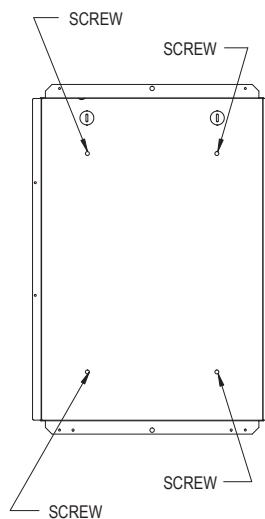

Figure 6
5. Place the frame against the wall, level, and tighten with four (4) wood screws (not included) into the holes provided for this purpose (see figure 6).
5. Insert the frame into the opening, press the flap against the wall. Screw in wood screws (not included) in the left and the right studs, through holes provided for this purpose (see figure 6).